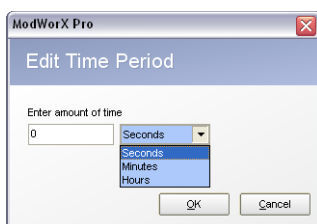

Figure 7.17
5. Adjust the Alarm Trigger Hold-off value, if necessary, by clicking the **Edit** button. An Edit Time Period window will appear (Figure 7.17). The alarm trigger hold-off is the amount of time the Scanner will wait before activating the alarm when the assigned parameter value exceeds the setpoint value. By default, the hold-off is set at zero. The time period can be configured in terms of seconds, minutes, or hours.